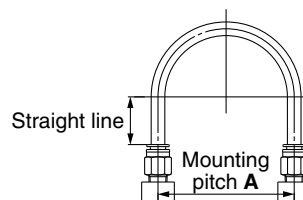

Fig. 1 Recommended piping
1. When connecting piping to the One-touch fitting, use a pipe length with sufficient margin, in accordance with the piping conditions shown in Fig. 1.